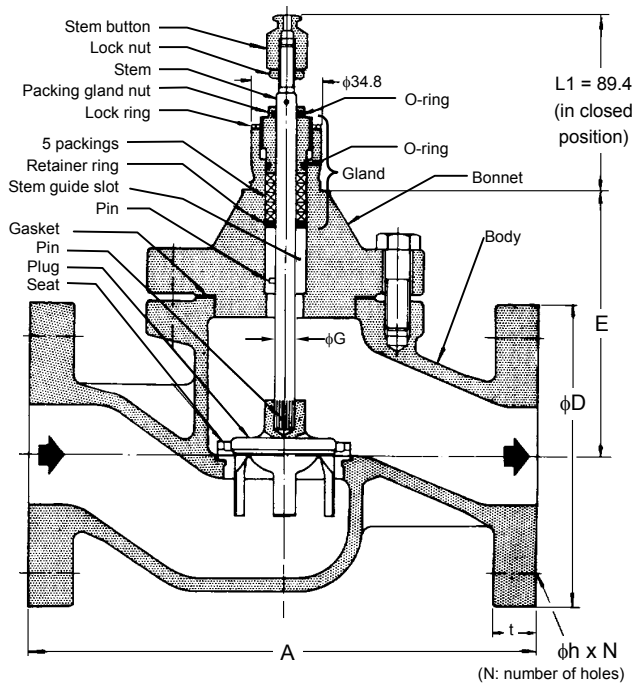

Figure 4. Dimensions (mm) and parts identification
- Mounting of Model MP912/ MP953 pneumatic actuator: The actuator can be mounted directly onto the valve. The stem button is screwed and locked at the exact position on the valve stem, before shipment. If the position is shifted, reset it to the position specified with 'L1' in Fig. 4 by adjusting the lock nut. Refer to the instruction of each actuator for details.